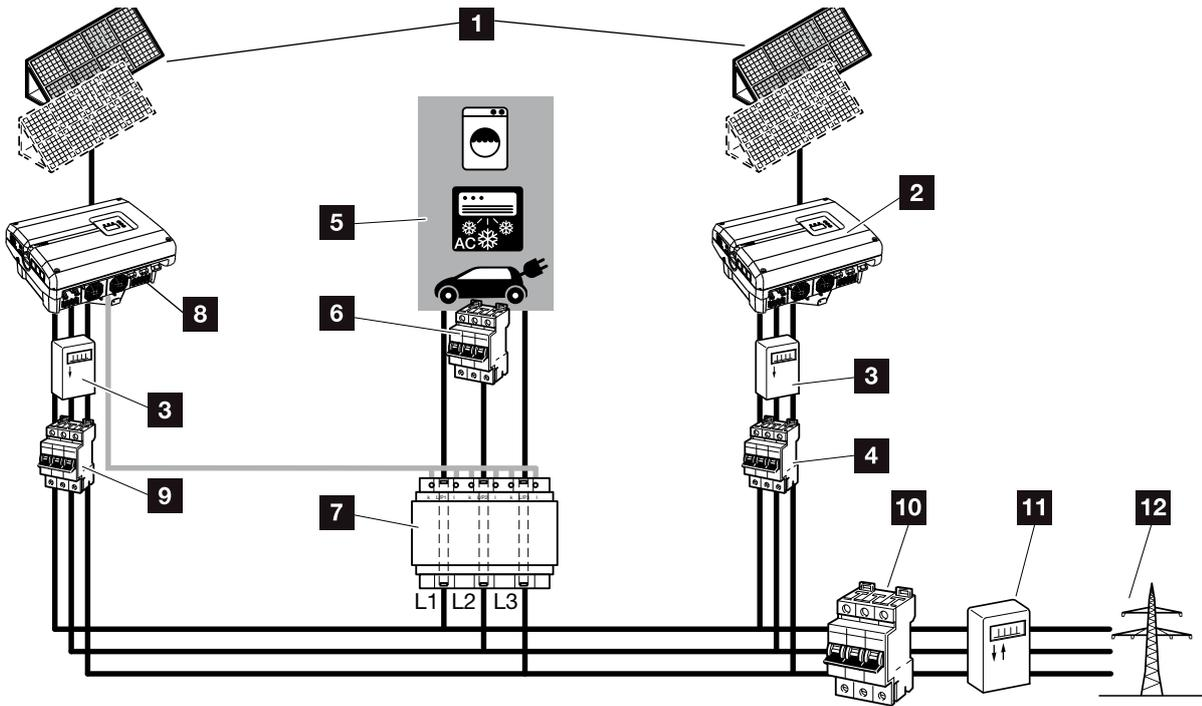
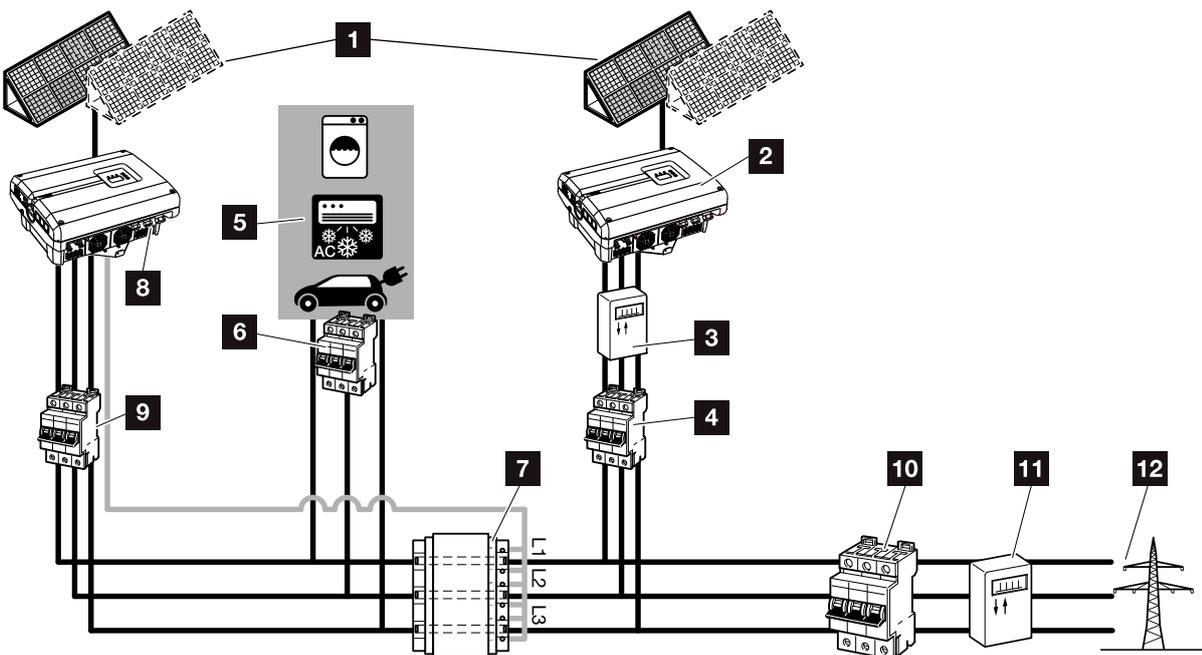

Fig. 78: Connection of several inverters - current sensor position mode 1 - building consumption data (possible as of PIKO 4.2)
Fig. 79: Connection of several inverters - current sensor position mode 2 - grid consumption data (possible as of PIKO 4.2)
2. Integrate inverters into the system as shown in the diagrams  **Fig. 78, Fig. 79** and connect them properly